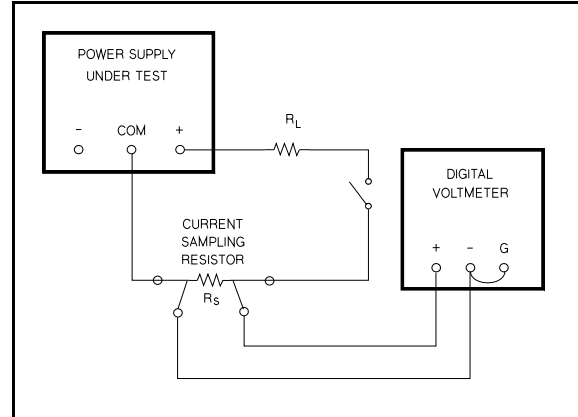

Figure A-4. Output Current, Test Set UP
- g. Connect the test setup shown Figure A-4 to the +6 V output. Make the total resistance of R_L and the current sampling resistor equal to 2.4 Ω to permit operating the output at full load. R_L should have a power rating of at least 20 watts.
- j. Check the rated output and ammeter accuracy of the +20 V and -20 V supplies similarly by connecting the test setup of Figure A-4 to each output in turn. For each 20 V supply: make the total resistance of R_L and the current sampling resistor 40 Ω , set the ± 20 V VOLTAGE control for a current indication on the DVM of 0.5 A, check that the panel meter indication is within $\pm(0.5\% + 2 \text{ counts})$ of 0.5 A (0.48 A to 0.52 A).
- l. Connect the test setup shown in Figure A-4 to the +20-volt output. Substitute a short for R_L and leave the load circuit switch open.
- p. Connect the test setup shown in Figure A-4 to the +6V output. Close the switch, set the total resistance of R_L and the current sampling resistor to an initial value of 2.4 Ω or greater, and set the output voltage to 6 volts.